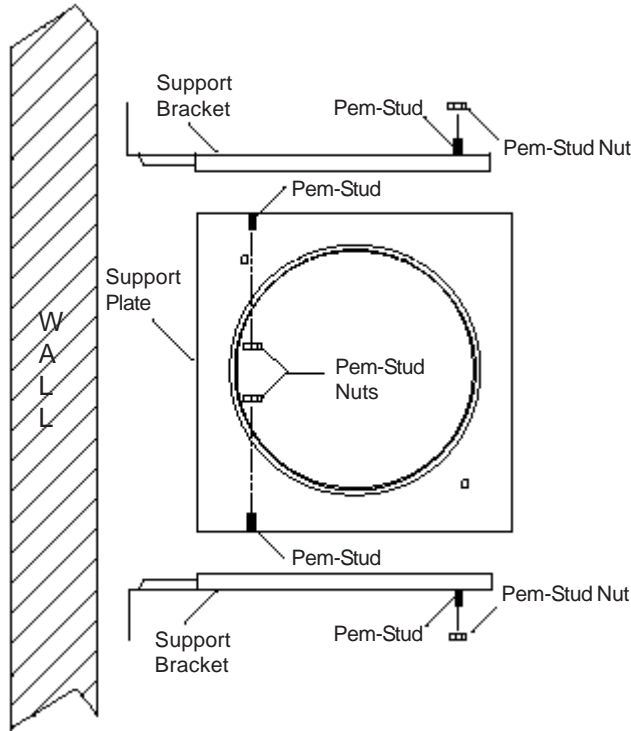

FIG. 4 - BOTTOM VIEW - PEM-STUDS LOCATION
1. Assemble the side brackets (peak of triangle facing down\*) to the support plate (flange up) by simply lining-up the pem-studs into the oblong slot openings as per Figure 4.